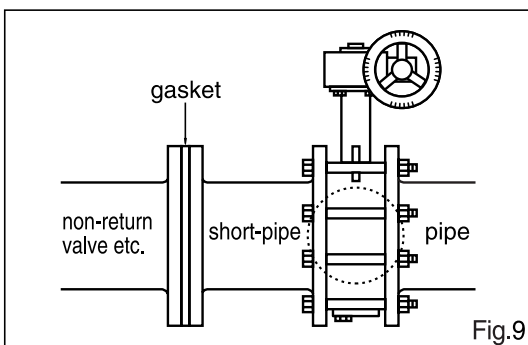

Fig.9
- **Installation the valve to a return valve to a return valve, etc...** : When the valve to be installed directly to return valve, pumps, etc..., there may be cases in which disc touches to other upon its full opening. In this case, short-pipe to be fixed before installation of the valve. (Fig.9)